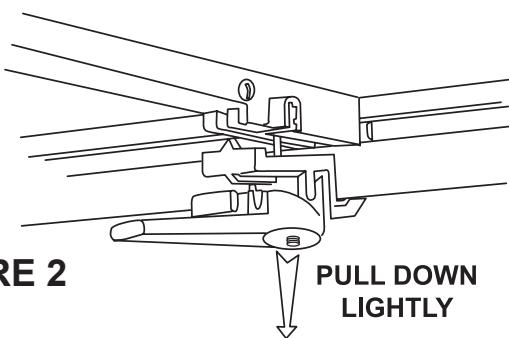

FIGURE 2
4. Tilt the handle/clamp assembly so that the locator is in the slot, pull down on the assembly, and slide the clamp under the edge of the inner lip of the bed rail. See Figure 2